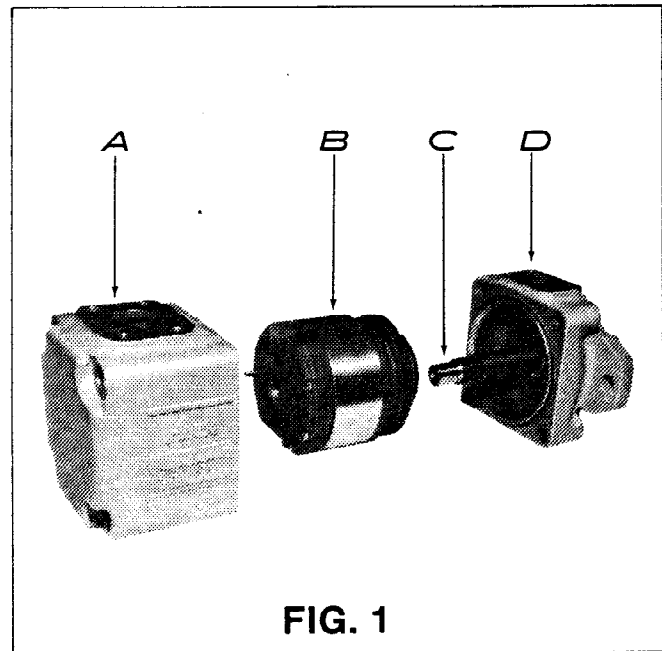

FIG. 1
The T5D and T5SD vane pumps consist of four basic components: (A) housing or body, (B) unitized cartridge consisting of: rotor, vanes, vane hold-out pins, cam ring, bearing and port plates, (C) shaft and bearing and (D) mounting cap. (see fig. 1)